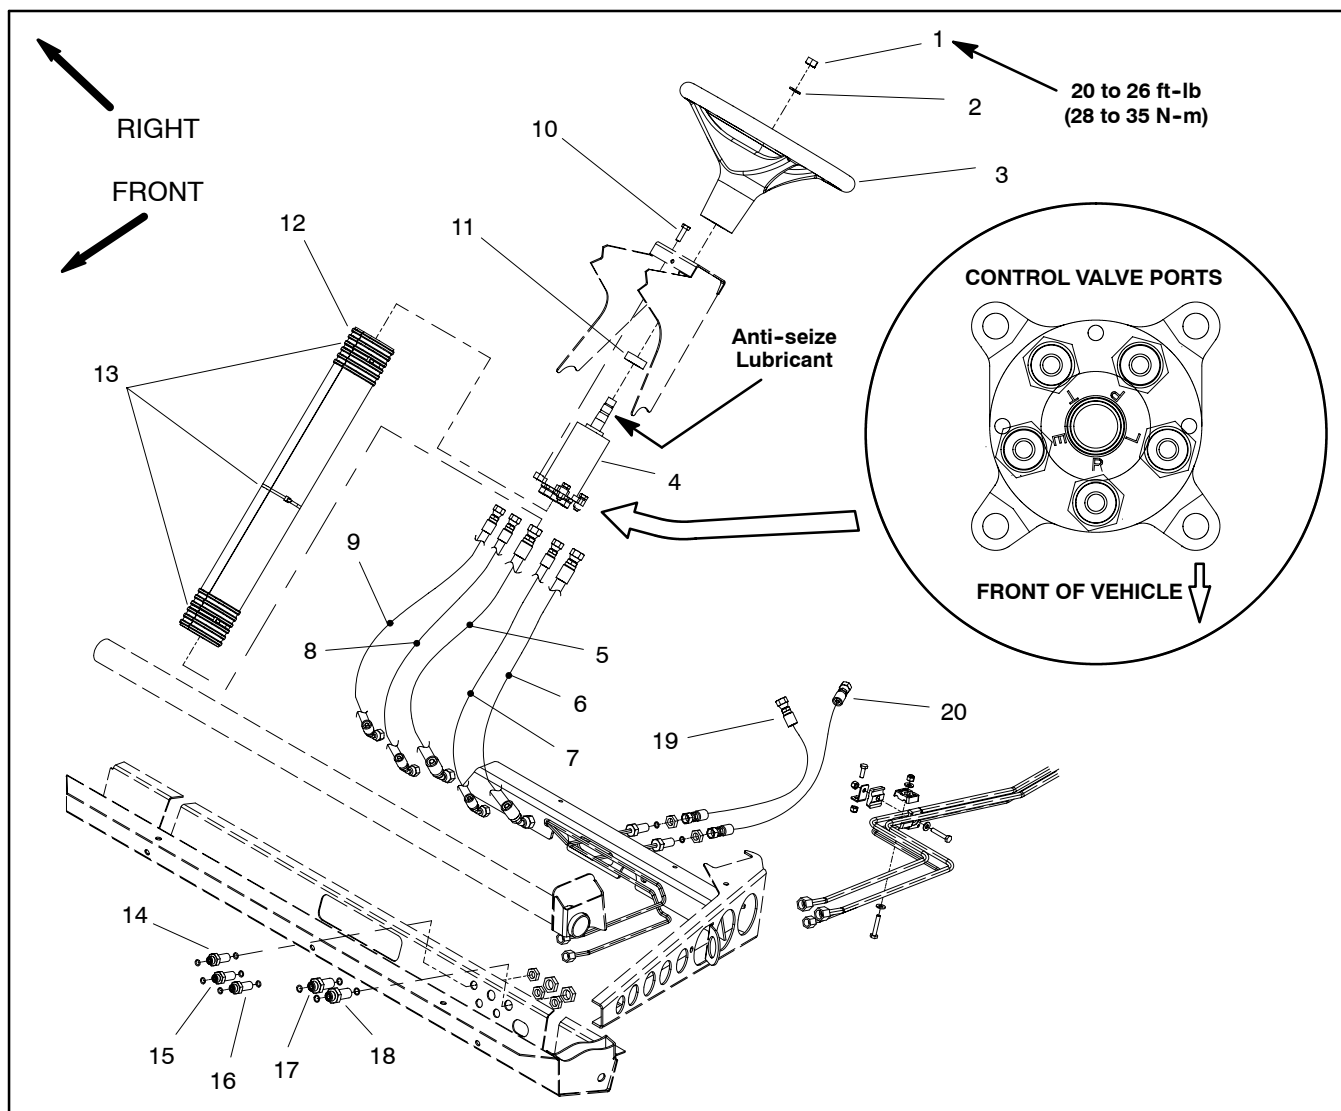
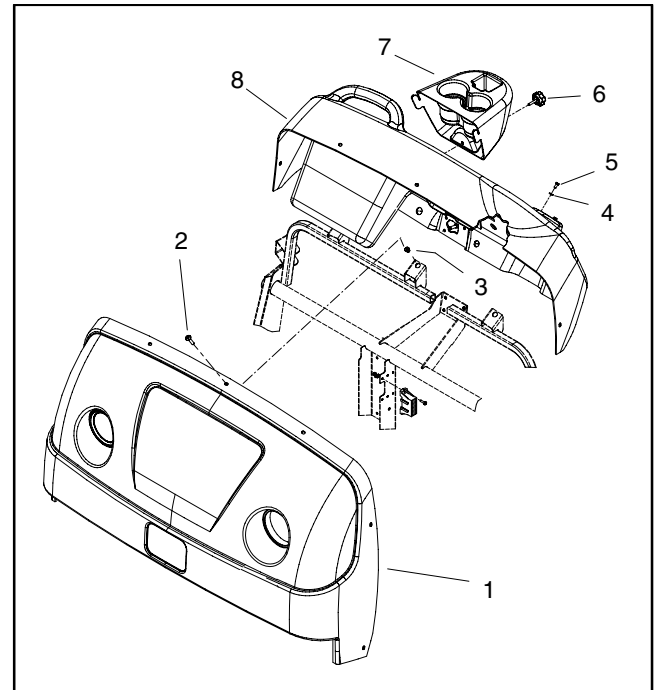

Figure 27
Figure 28
Removal (Fig. 27)
5. Raise dash to gain access to steering control (Fig. 28):
A. Remove seven (7) screws (item 2) that secure hood and dash to frame.
B. Remove two (2) cap screws (item 5) and flat washers (item 4) that secure dash to steering control.
6. Remove steering control valve from vehicle frame by removing four (4) cap screws.
7. Remove cable ties that secure cover (item 12) over hydraulic hoses. Remove cover from hoses.
8. Label and disconnect hydraulic hoses from steering control valve (refer to Figures 27 and 29). Install caps or plugs in hoses to prevent contamination and leakage of hydraulic oil. Install plugs in valve ports.
Installation (Fig. 27)
1. Replace o-rings on hydraulic hoses and fittings. Remove caps and plugs from hoses and fittings. Connect hydraulic hoses to correct steering control valve ports (refer to Figures 27 and 29). Make sure that hoses are not twisted while tightening.
2. Secure steering control valve to vehicle with four (4) cap screws.
4. Position dash and hood to frame (Fig. 28). Secure with seven (7) screws and two (2) cap screws with flat washers.